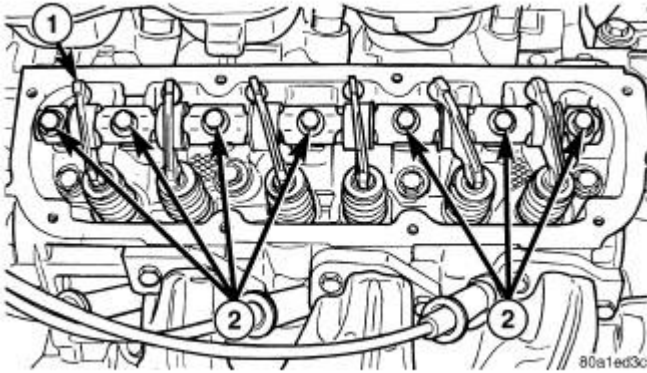

Fig. 74: Rocker Arms, Shaft Assembly & Bolts
3. Slowly tighten rocker shaft bolts evenly until shaft is seated. Tighten bolts to 23 N.m (200 in. lbs.). Refer to Fig. 74.